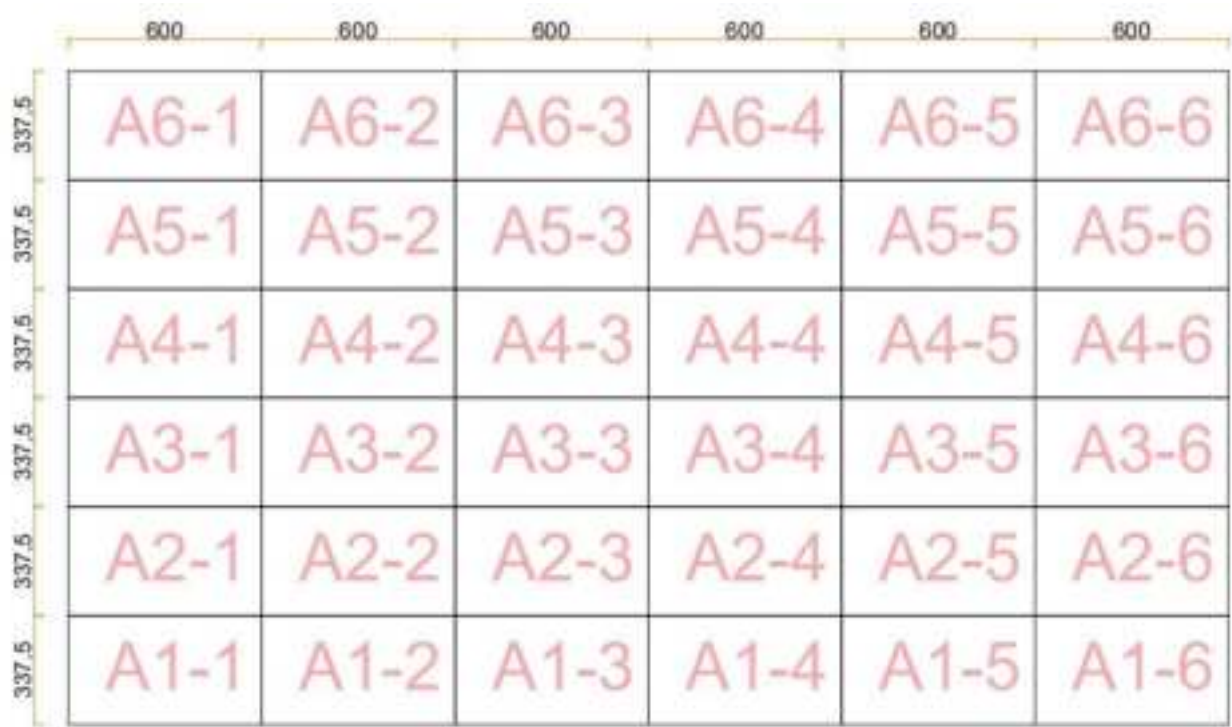

Fig 2-4
- 2. Unpack the cabinets and arrange them according to their numbered sequence, ensuring proper alignment based on cabinet size(Figure 2-4) .